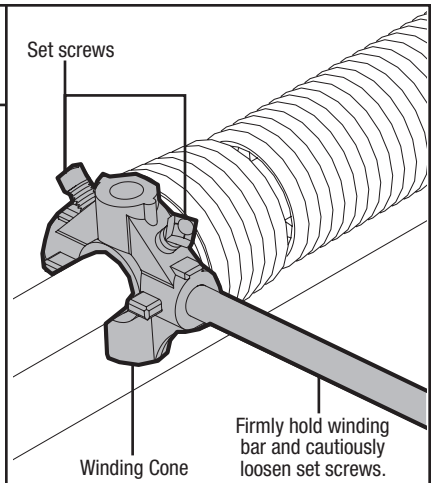
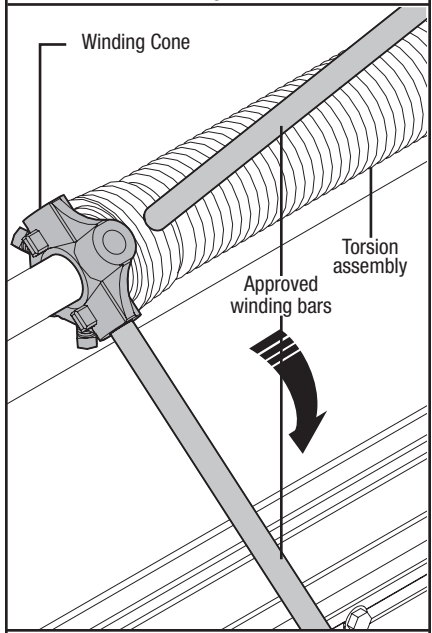

Fig. 1
Fig. 2
**Step 2:** Insert an approved winding bar into one of the holes in the winding cone. EXERT UPWARD PRESSURE. Using caution, loosen the two (2) set screws in the winding cone. Be prepared to support the full torsion force of the spring(s) when the set screws are loosened (use Fig.1 & Fig. 2).
**Step 2a:** Insert an approved winding bar into one of the holes in the winding cone. EXERT DOWNWARD PRESSURE. Using caution, loosen the two (2) set screws in the winding cone. Be prepared to support the full torsion force of the spring(s) when the set screws are loosened (use Fig.1 & Fig. 2).
**Step 3:** Once set screws are loose, slowly and carefully lower the winding bar until it contacts the door. Insert other winding bar into the upper hole. Push up and remove lower bar. Carefully lower upper winding bar 1/4 turn at a time. Repeat the process of alternating winding bars until all tension is relieved. If your door is equipped with two (2) torsion springs, follow the same procedure to relieve tension on the second spring.
**Step 3a:** Once set screws are loose, slowly and carefully raise the winding bar a 1/4 turn at a time. Insert other winding bar into the lower hole. Push down and remove upper bar. Carefully raise lower winding bar 1/4 turn at a time. Repeat the process of alternating winding bars until all tension is relieved. If your door is equipped with two (2) torsion springs, follow the same procedure to relieve tension on the second spring.